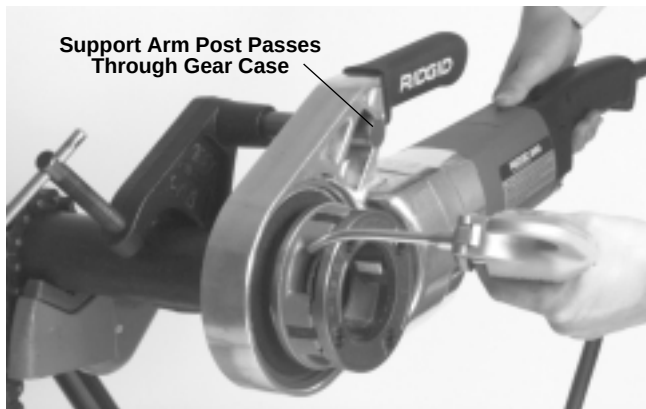

Figure 7 – Threading Pipe and Applying Oil
7. Simultaneously actuate the ON/OFF switch and exert pressure against the Die Head with the palm of free hand to assist in starting thread. Apply plenty of thread cutting oil to the dies during threading. This will reduce the torque required to thread and improve the thread quality (Figure 7).